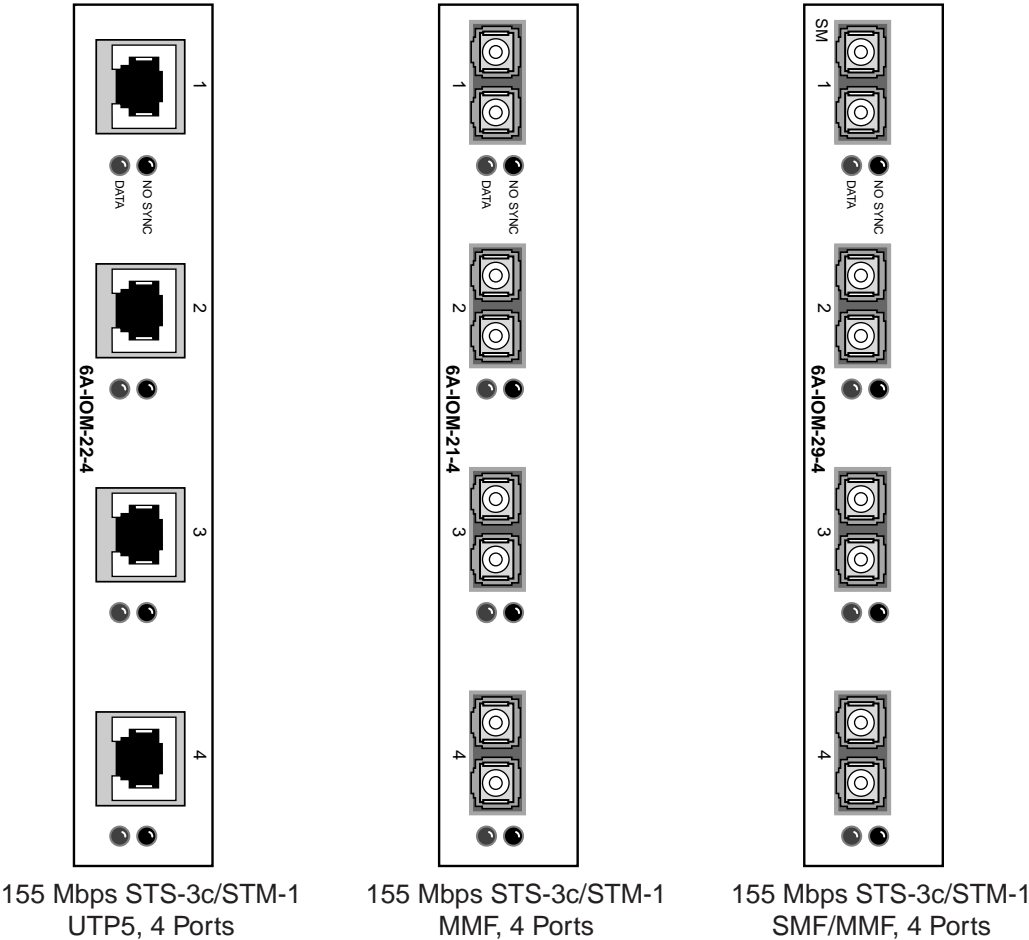

Figure 2-2 6A000 I/O modules
- Input/Output (I/O) modules are of the correct type and number (See Figure 2-2).